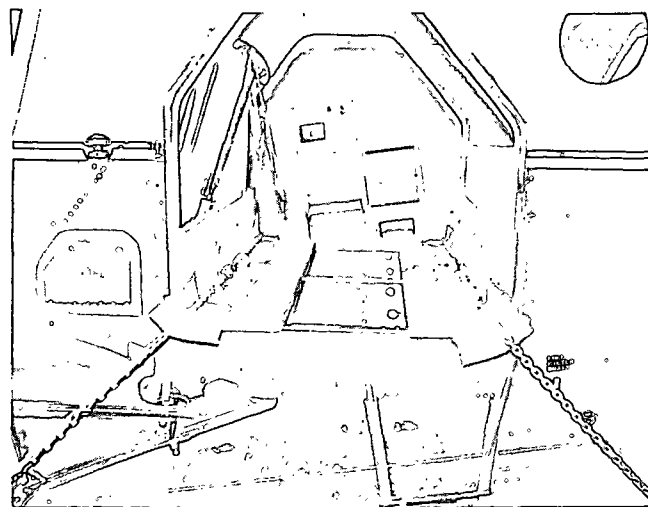
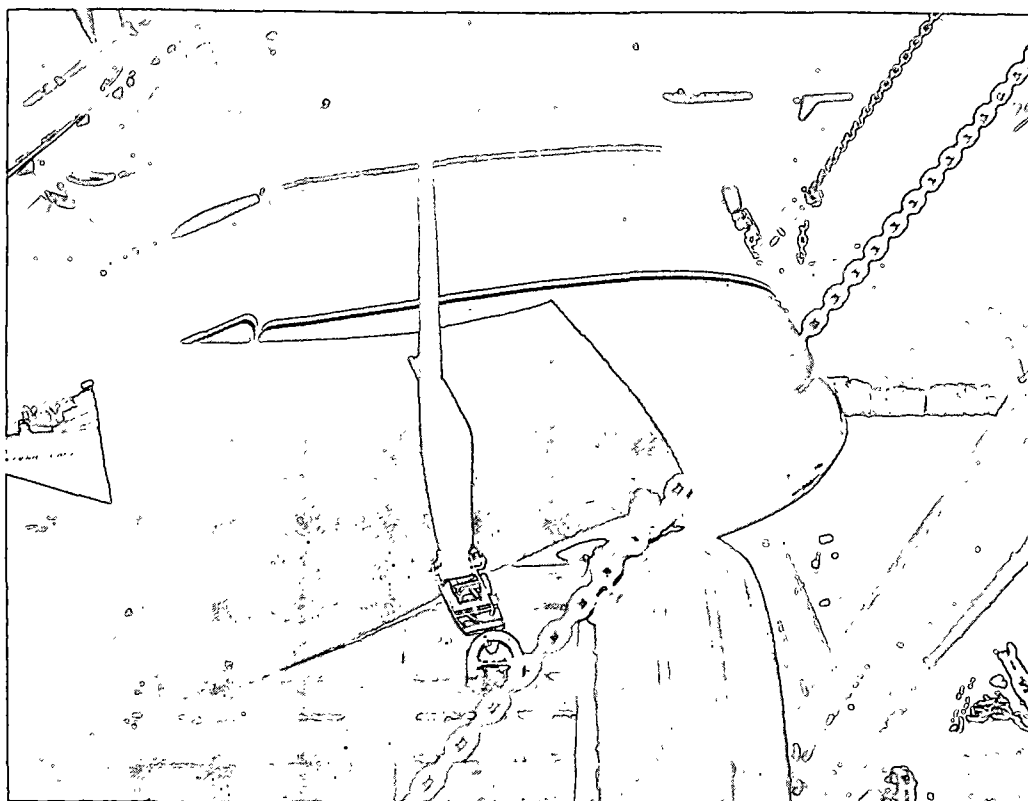

Figure 2-188. Tiedown beams constructed to restrain the U-6.
Figure 2-189. Positioning and tiedown of one U-6 wing. Note the honeycomb paperboard cushioning the wing and the felt sheets under tiedown straps.
a. Four pieces of 2- by 12- by 54-inch lumber nailed together length-wise along their edges to form two tiedown beams as shown in figure 2-188.
b. Four pieces of 4-by 8-foot honeycomb paperboard to cushion the two wings as shown in figure 2-189.
d. Eighty square feet of one-half-inch-thick felt padding, used under the tiedown straps passed over the wings (fig 2-189) and under the tiedown straps at the ends of the tiedown beams (fig 2-188).
a. Position the tiedown beams across the U-6A cabin floor as shown in figure 2-188.
b. Tiedown the U-6A and components as shown in figures 2-188 and 2-189, figures 2-193 through 2-195, the tiedown diagram (fig 2-205), and tiedown data table 2-33.